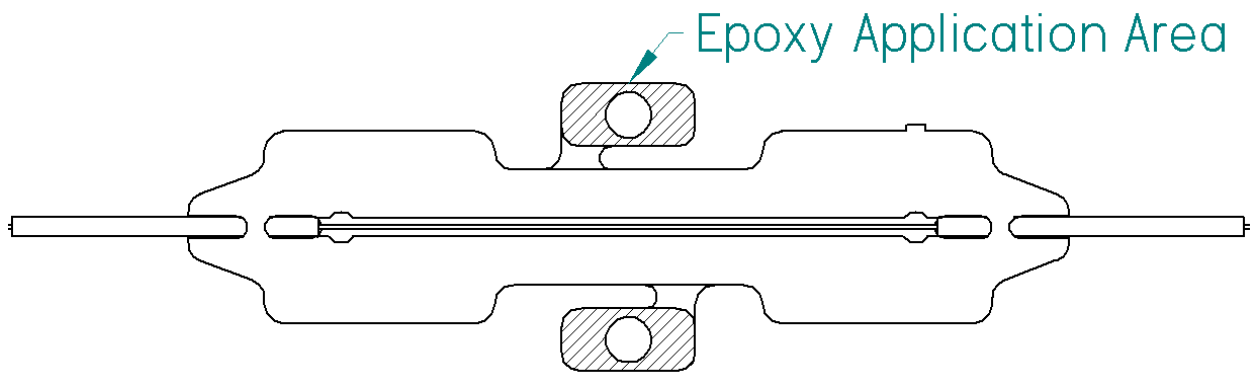

Figure 4 – Sensor Bottom View
The os4100 temperature compensation sensor may also be fastened to a variety of surfaces using epoxy. When using epoxy, it is important that epoxy contacts the sensor only on the area indicated in Fig. 4.
- 3.2. Mix epoxy according to manufactures instructions. Apply a thin film of epoxy to the epoxy application area as shown in Fig. 4. Be careful not to allow epoxy to come in contact with other areas of the sensor. Position the sensor on the specimen surface. Cellophane tape may be used to hold sensor in position until clamp is applied. Place a strip of polyethylene film over the sensor to prevent any epoxy that is squeezed out from under the sensor from adhering to the clamp pad.